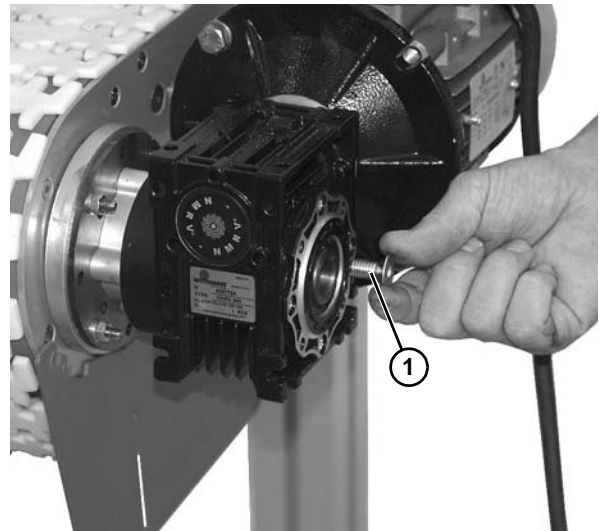

Figure 51
4. Install and tighten flat head screw (Figure 51, item 1) onto the drive shaft.